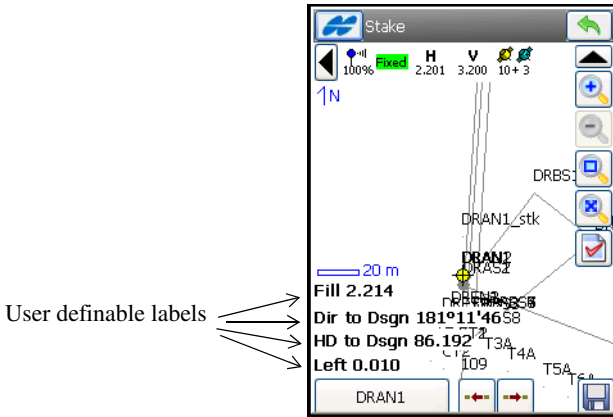
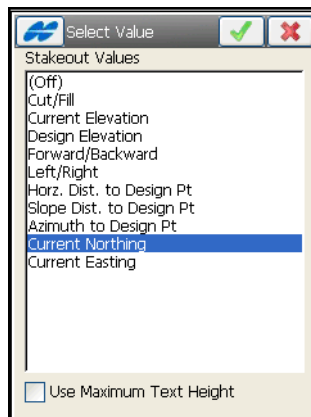

Figure 9-10. Map View of Stakeout
Figure 9-11. Select Value
13. All graphical views contain four user definable labels for showing any live value (see Figure 9-10). You can tap on one of them to change it on the *Select Value* screen (Figure 9-11 on page 9-9).